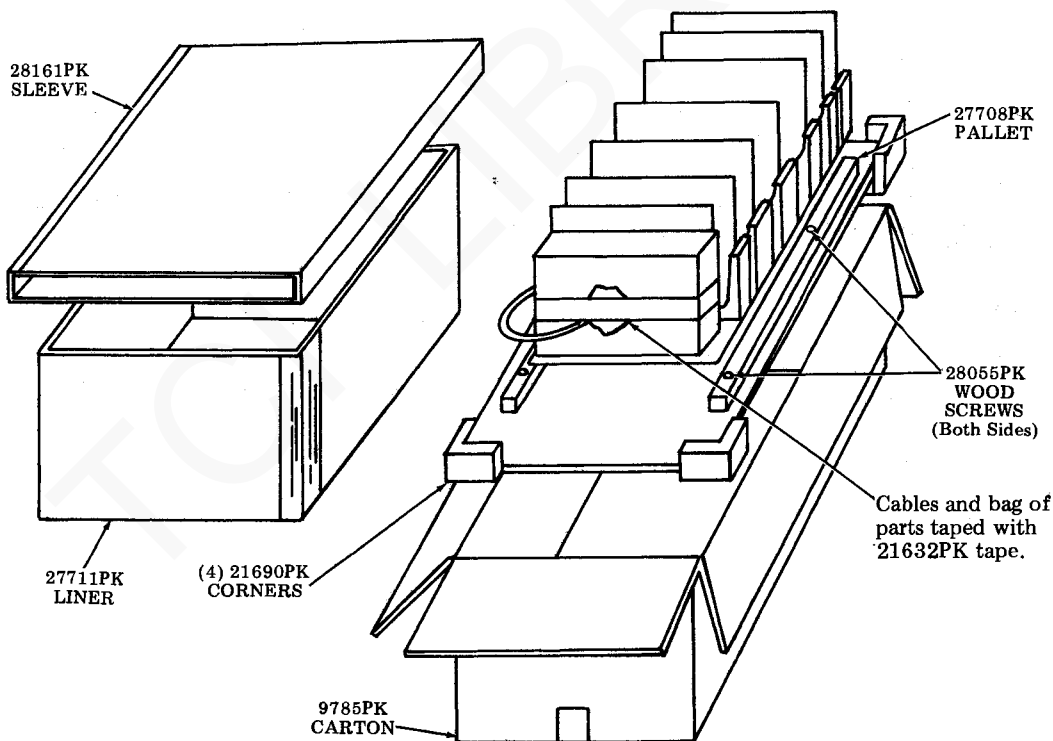

Fig. 44
- Step 9. Form and position a corrugated 28161PK detail in container as illustrated in Fig. 44.